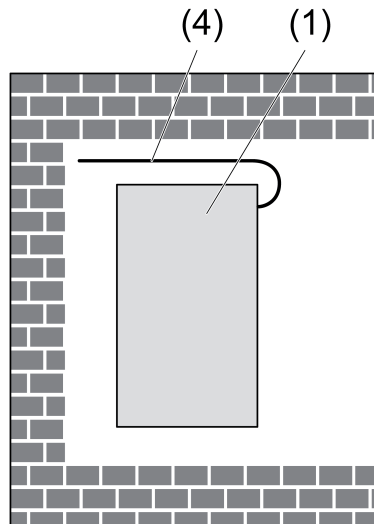

Figure 4
- ⓘ Lay the antenna stretched out freely if possible (Figure 4).